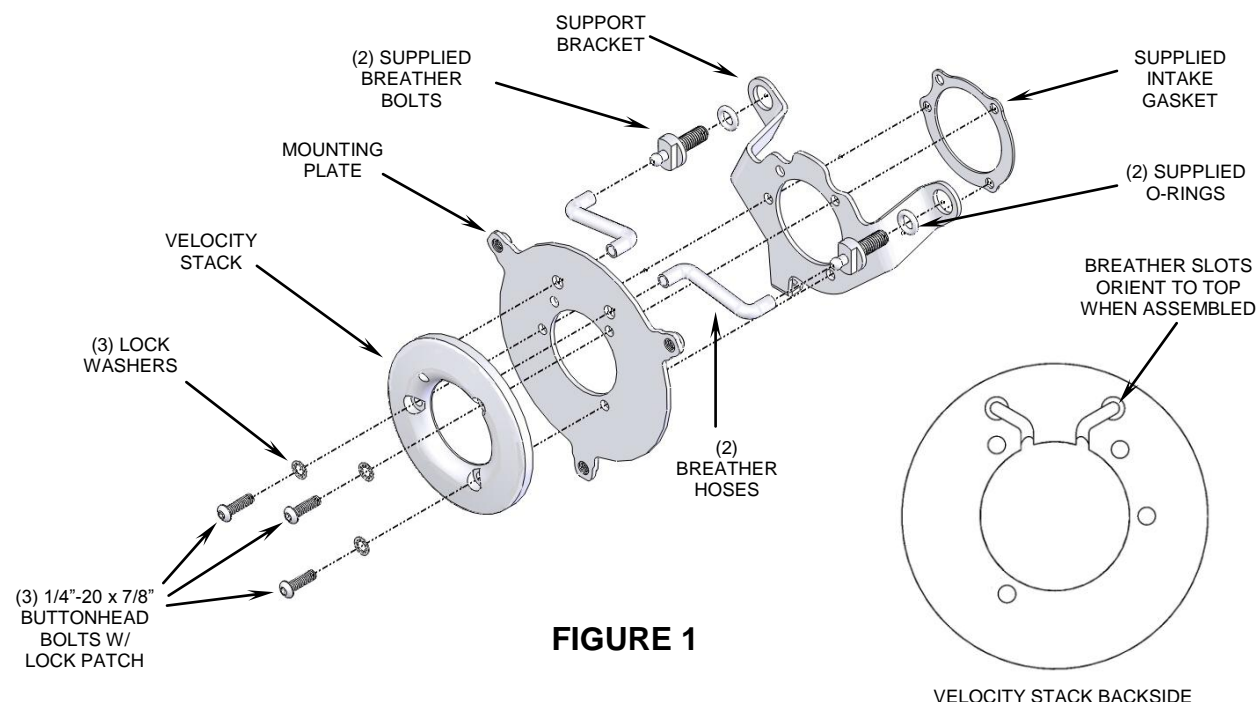

FIGURE 1
2. Remove and discard the (2) stock breather bolts, (2) stock o-rings, and (2) stock breather hoses from the cylinder heads.
3. Insert (3) supplied 1/4"-20 x 7/8" buttonhead bolts with lock washers through the mounting holes in the velocity stack and base mounting plate. While holding that assembly together with one hand, insert the (2) breather hoses through the mounting plate and into the velocity stack with the hoses rotated outward, as shown in Figure 1. Make sure the hoses are bottomed out in the back of the velocity stack.
4. Join together the assembly from Step 3 with the supplied support bracket and gasket then start threading the (3) buttonhead bolts into the throttle body, but do not tighten.